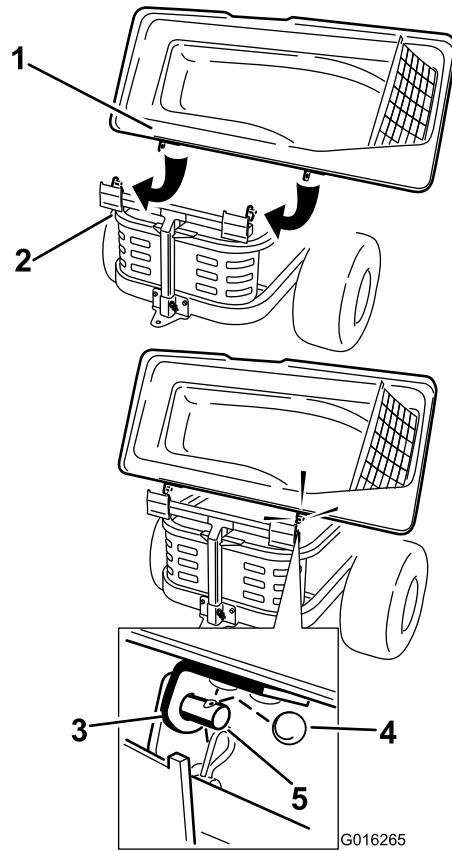

Figure 13
1. Install the bagger top to the bagger frame. Slide the brackets over the posts in the bagger frame and install the circular cotter into the hole in the right hand post (Figure 13). Rotate the bagger top down to the operating position. The bagger top is easier to install if two people work together.